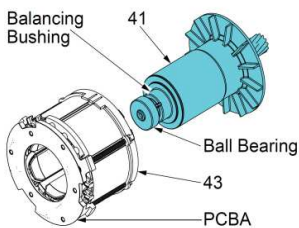

Figure 1
• **Strong magnetic force.** Care must be taken when installing the Rotor (41) into the Stator Assembly (43). Do not allow rotor bearing or balancing bushing to hit PCBA on the back end of the stator. This could cause damage to the PCBA. See figure 1.